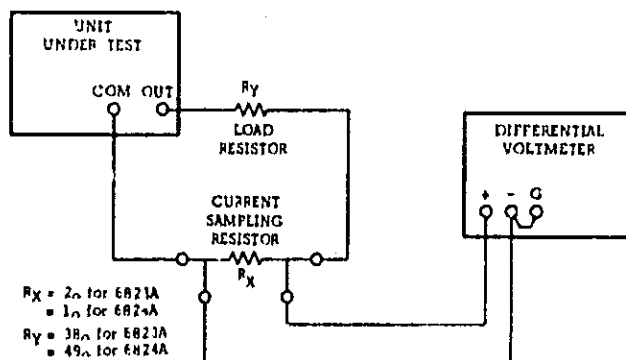

Figure 5-3. Output Current, Test Setup
| Resistor                     | Value: See Paragraph 5-13 and Figure 5-3, $\pm$ 5%, 75 watts                    | Load Resistor                                 | -----                        |
| Resistor                     | Value: See Figure 5-3. 1%, 30 watts (6823A) 60 watts (6824A) 20ppm, 4-Terminal. | Current sampling                              | -----                        |
- a. Connect test setup shown in Figure 5-3.